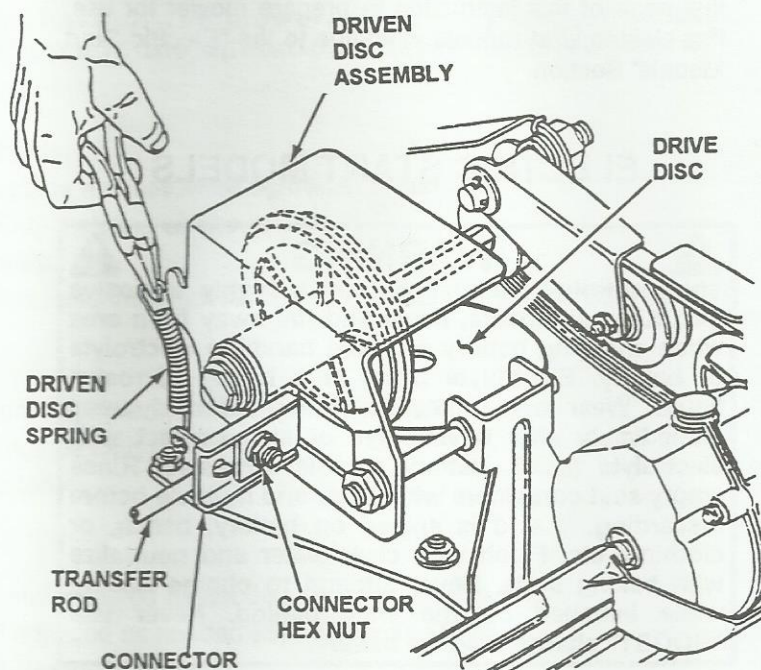

FIGURE 13
B. Remove driven disc spring from driven disc assembly as shown. Loosen connector hex-nut. See Figure 13.